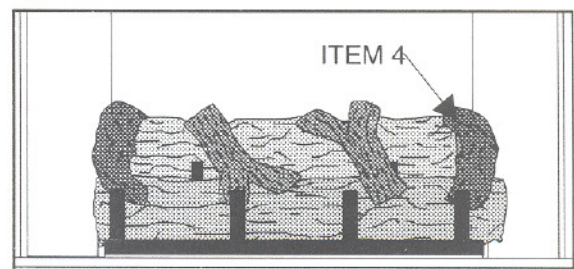

Figure 39
7. See Figure 39. Position the remaining "hooked" Log (Item 4) with the "hook" on the right end of the Back Log. The "straight" portion of the log will lay on the right end of the Front Log.